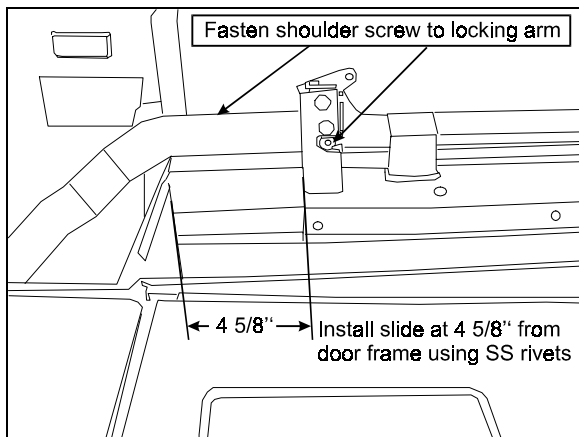
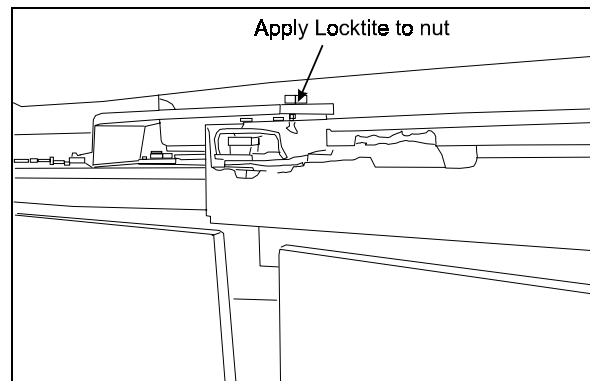

FIGURE 12
FIGURE 13
5. Assemble slider and slider arm with the shoulder screw and washer (figure 12). Apply Locktite to nut (figure 13).